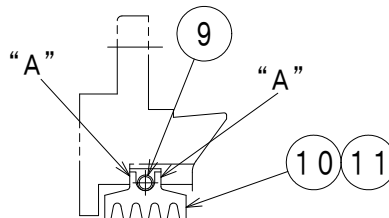

Fig. 13-5
- (5) Disassembly of floating seal (see Fig. 13-5)
- Unlock garter spring ⑨, and take out upper half ⑩ of floating seal.
- Rotate floating seal lower half ⑪ to the top position, and remove it. When taking out the floating seals, pay attention to prevent damage.
- (3) Reassembly of oil ring
- (4) Reassembly of bearing shell upper half
- (5) Reassembly of floating seal
- a) Apply un-hardening compound (like ThreeBond 1121) or grease thinly on the peripheral side faces ("A" in Fig. 13-5) of the floating seal, and apply lubrication oil thinly on the bore of the floating seal.